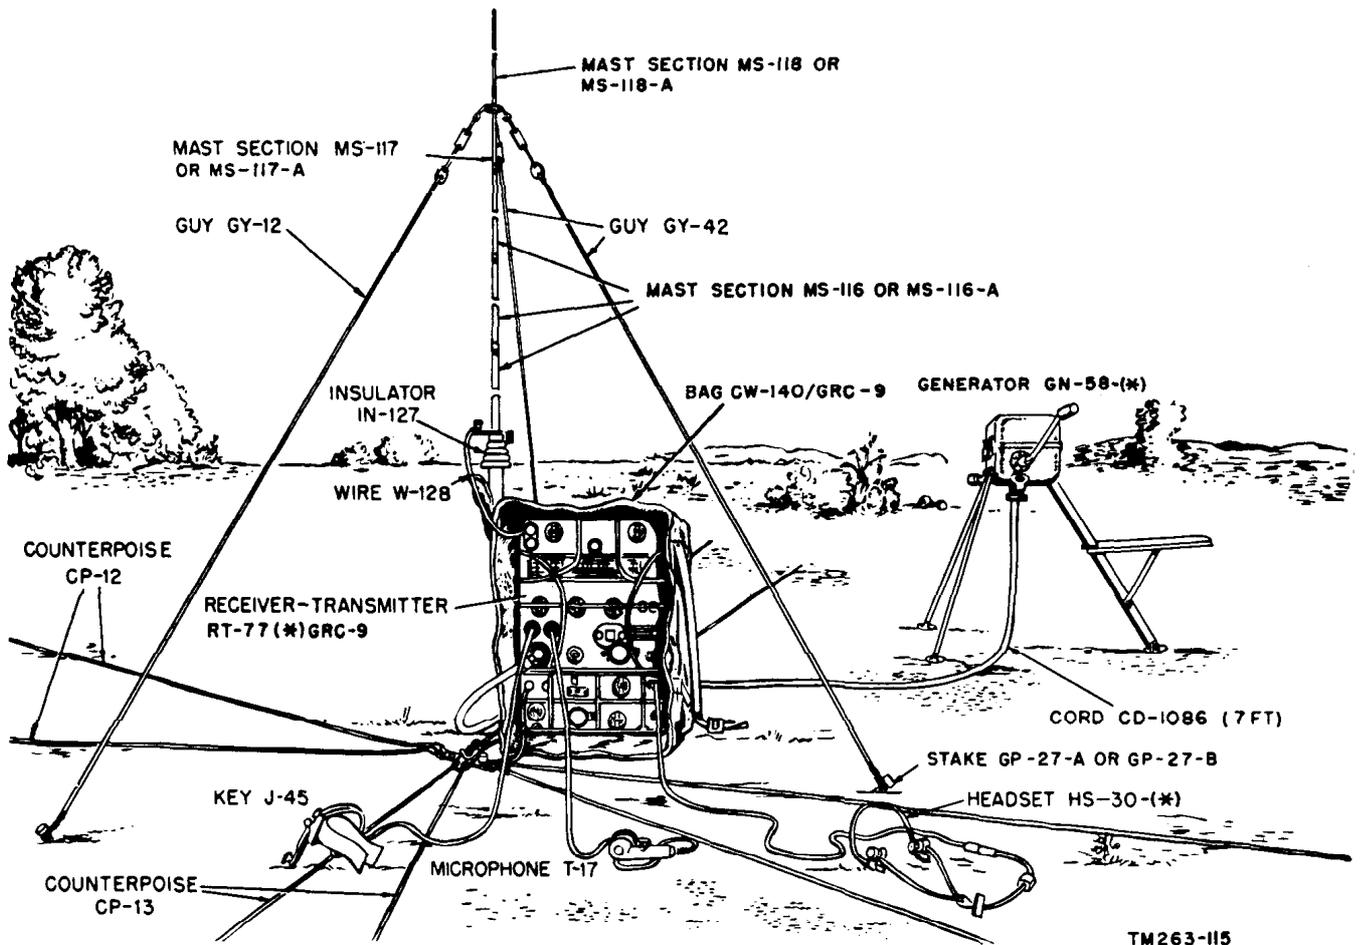
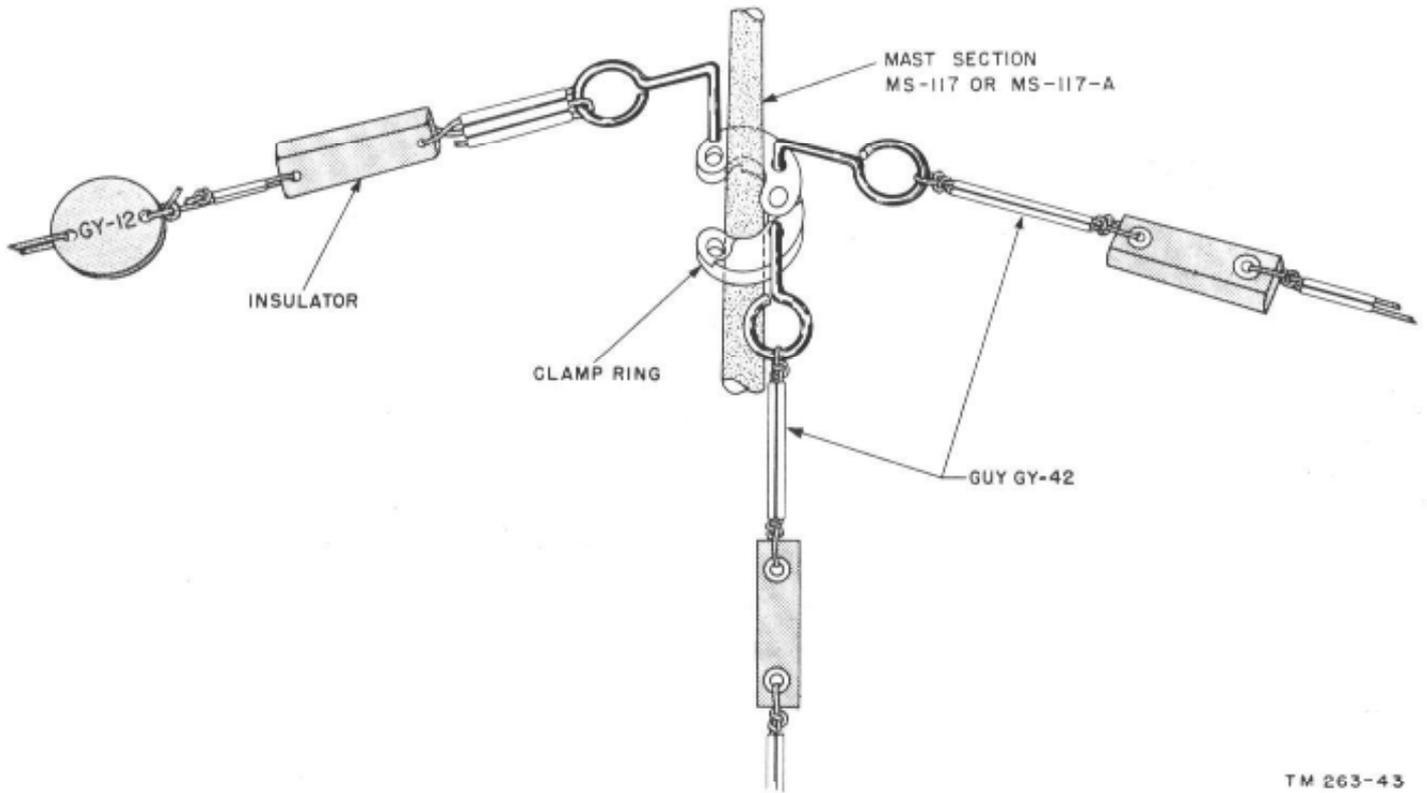

Figure 23. Typical ground installation, whip antenna.
Figure 25. Clamp ring, in use.
30. Whip Antenna (fig. 23)
f. Close the clamp ring of Guy GY-42 (fig. 25) and hook the end of Guy GY-12 (fig. 23) through the holes in the collar clamps to keep the clamps closed. Insert Mast Section MS-116-A into Insulator IN-127.